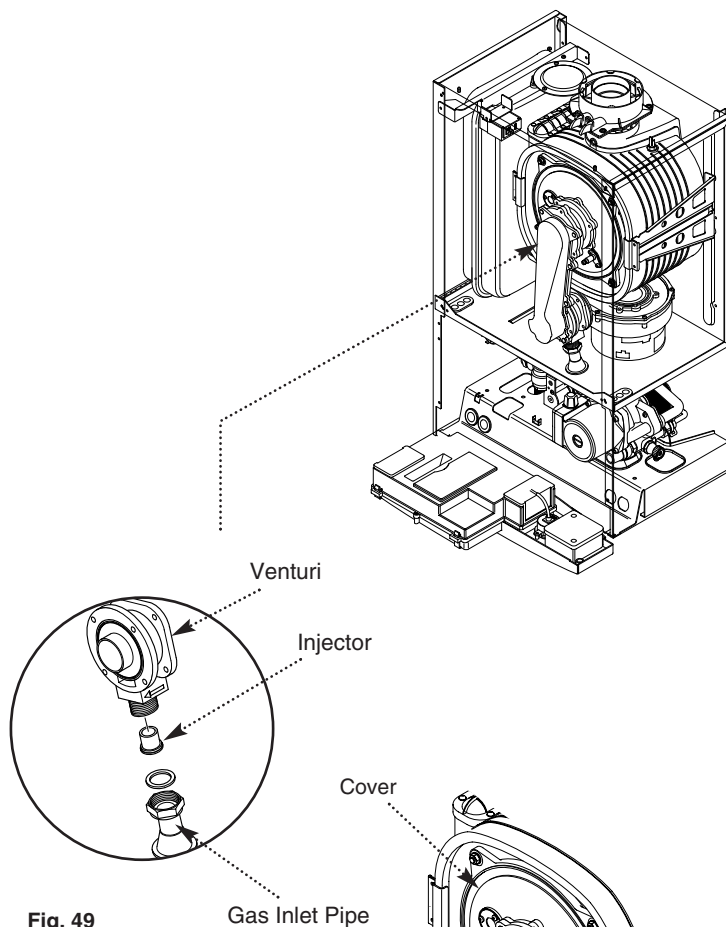

Fig. 49
1. Undo the nut on the gas inlet pipe to the venturi (Fig. 49) and pull the sensing pipe off the fan.